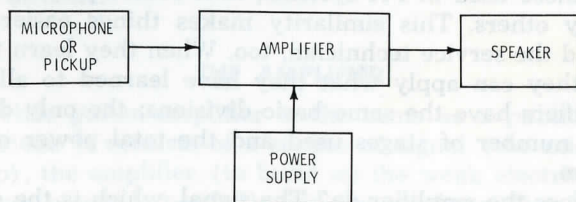

Fig. 1-3. Block diagram of typical guitar assembly.
An electric guitar amplifier is the same as a public address (PA) system. It consists of a source of signal (the microphone or pickup), the amplifier (to build up the weak electrical signal to whatever power is needed), and the speakers. Fig. 1-3 shows a block diagram of such a system.